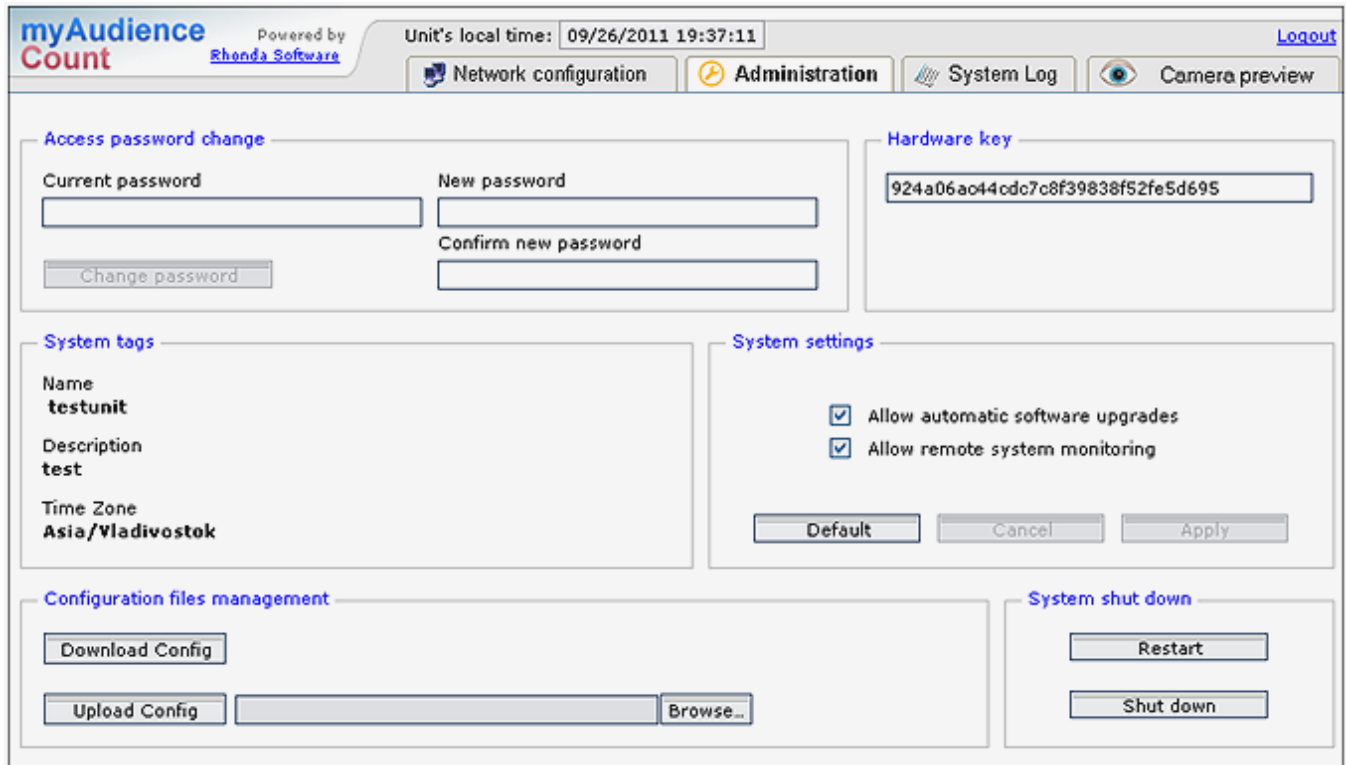
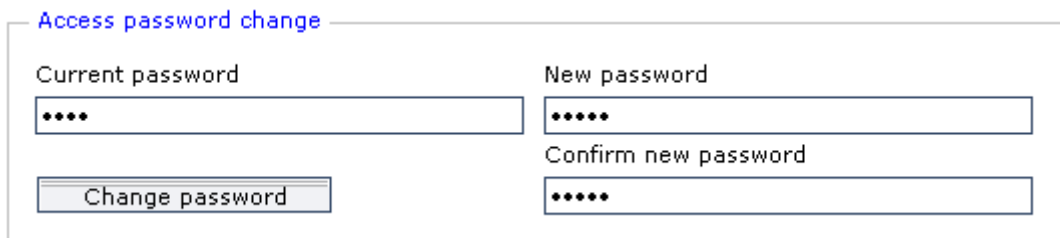

Figure 29: "Administration" tab.
Figure 30: access password change.
1. To change the password of configuration access (default "admin") go to "Access password change" section in the upper-left corner of "Administration" tab (Figure 29). Enter the current password, type and confirm a new one and press "Change password" button (Figure 30).